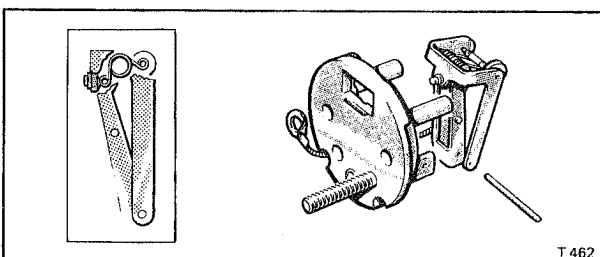

Fig. K19 Fitting the rocker assembly to the pedestal
S.U. fuel pumps assembly - To assemble Pedestal and rocker (see Figs. K19 and K20)
1. Invert the pedestal and fit the rocker assembly by pushing the specially hardened steel pin (see Fig. K19) through the small holes in the rocker and pedestal struts.
Position the centre toggle so that the inner rocker spindle is in tension against the rear of the contact points. Also ensure that the centre toggle spring is above the upper spindle (see Fig. K19, inset). The position of this centre toggle spring is important to obtain the correct 'throw-over' action. It is essential that the rockers are perfectly free to swing on the pivot pin and that the arms are not binding on the legs of the pedestal. If necessary the rockers can be aligned using a pair of thin nose pliers.